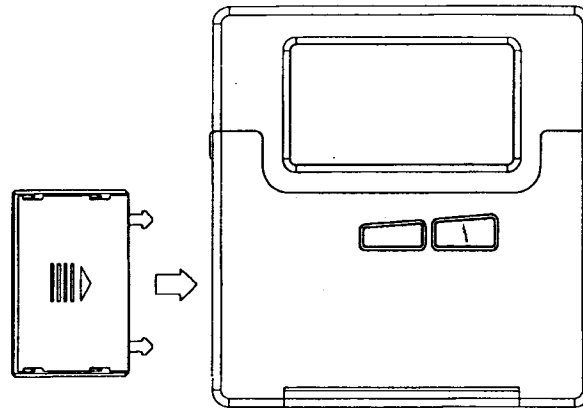

Figure 7
3. Slide the battery compartment into the Wall Mount Programmable Transmitter as shown in figure 7.